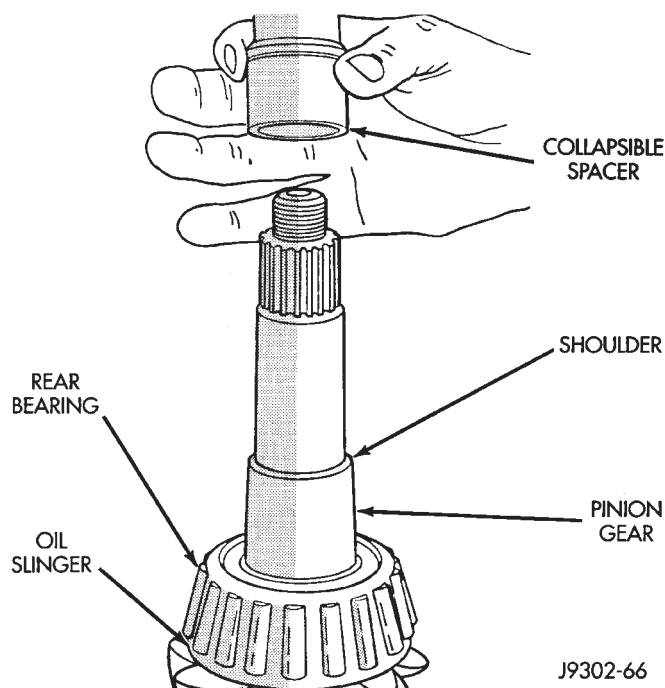

Fig. 36 Collapsible Preload Spacer
(9) Install a new collapsible preload spacer on pinion shaft and install pinion gear in housing (Fig. 36).
(10) Install pinion gear in housing.